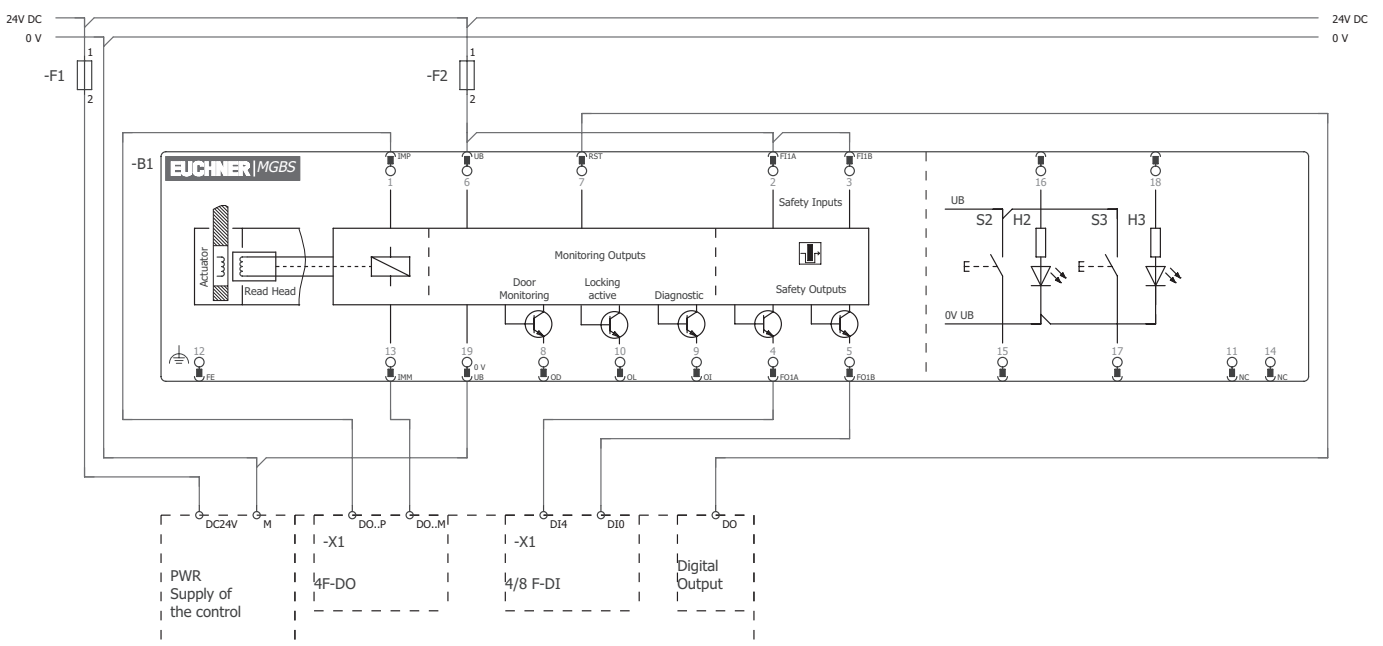

Fig. 7: Connection example for the connection to ET200
- ▶ For dual-channel control of the solenoid voltage by safe outputs of a control system, the following points must be observed (see also Fig. 7 on page 30):